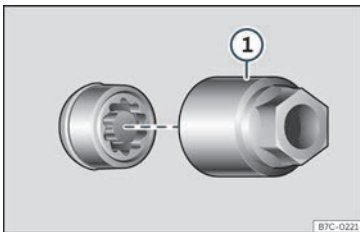

Fig. 40 Anti-theft wheel bolt with cap and adapter.
- Insert the special adapter»» Fig. 40 ① (vehicle tools»» page 45) onto the anti-theft wheel bolt and push it on as far as it will go.